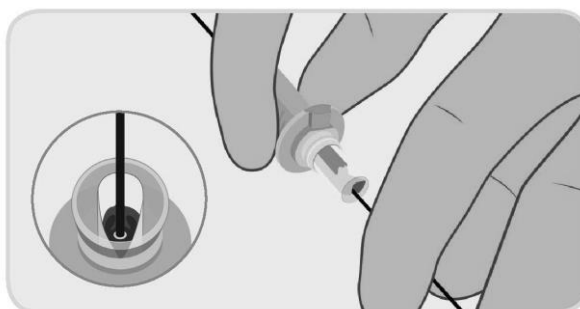

Figure 7. Loading guidewire into device cannula.
- Use non-heparinised saline to lubricate the guidewire during insertion. Insert the guidewire into the implant within the loading cannula, Figure 7 continue to insert the guidewire until it emerges from the rear of the PerQseal® closure device handle. Hold the PerQseal® Introducer-sheath at a low angle relative to the longitudinal axis of the artery (e.g. 20°) and keep the Introducer-sheath as straight as practical, to avoid kinking.
*Note 2: Only grip the back portion of the Loading cannula during insertion as indicated in Figure 7.*